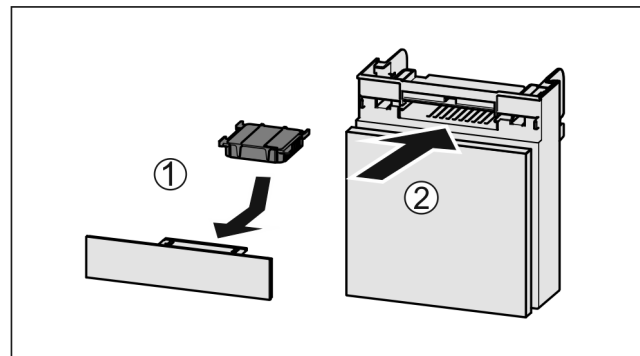

Fig. 116
- ▶ Insert the carbon filter as shown in the diagram *Fig. 116 (1)*.
- ▶ Push the compartment in *Fig. 116 (2)*.